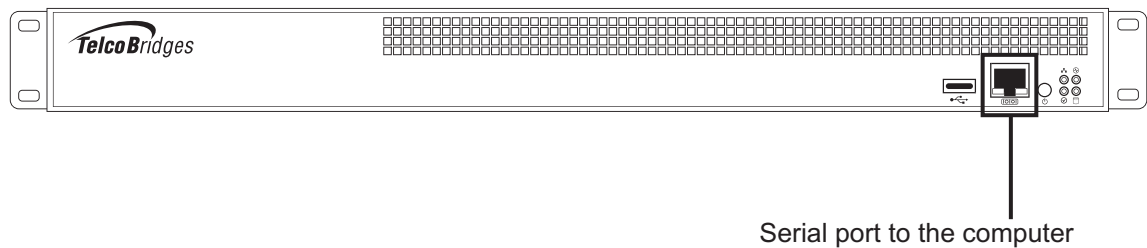

Figure 3.1 Computer to 800 Series Gateway Serial Port Connection
1. Connect one end of a CAT5 RJ-45 (male-male) cable to the DB-9 to RJ-45 adapter (both supplied with unit). Connect the DB-9 to RJ-45 to your computer serial port and the other end of the CAT5 RJ-45 (male-male) cable to the serial port (labelled 10101) of the 800 series gateway as shown in figure 3.1 on page 40. See Section A.2 “RJ48 Console Wiring Diagram” on page 48 for a RJ-45 pinout description.